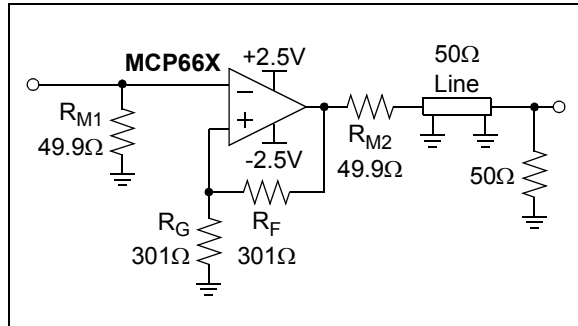

FIGURE 4-10: 50Ω Line Driver.
Differential gain (DG) and differential phase (DP) refer to the non-linear distortion produced by a NTSC or a phase-alternating line (PAL) video component. Table 1-2 and Figure 2-34 show the typical performance of the MCP661, configured as a gain of +2 amplifier (see Figure 4-10), when driving one back-matched video load (150 Ω , for 75 Ω cable). Microchip tests use a sine wave at NTSC's color sub-carrier frequency of 3.58 MHz, with a 0.286V_{P-P} magnitude. The DC input voltage is changed over a +0.7V range (positive video) or a -0.7V range (negative video).
Figure 4-10 shows the MCP661 driving a 50Ω line. The large output current (e.g., see Figure 2-18) makes it possible to drive a back-matched line (R_{M2} , the 50Ω line and the 50Ω load at the far end) to more than $\pm 2V$ (the load at the far end sees $\pm 1V$). It is worth mentioning that the 50Ω line and the 50Ω load at the far end together can be modeled as a simple 50Ω resistor to ground.